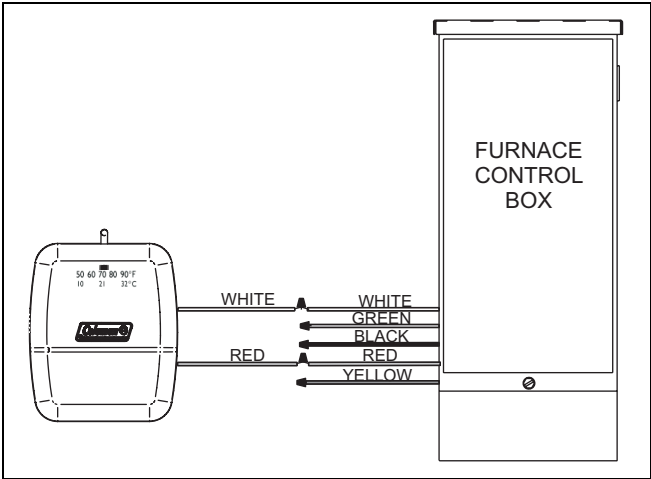
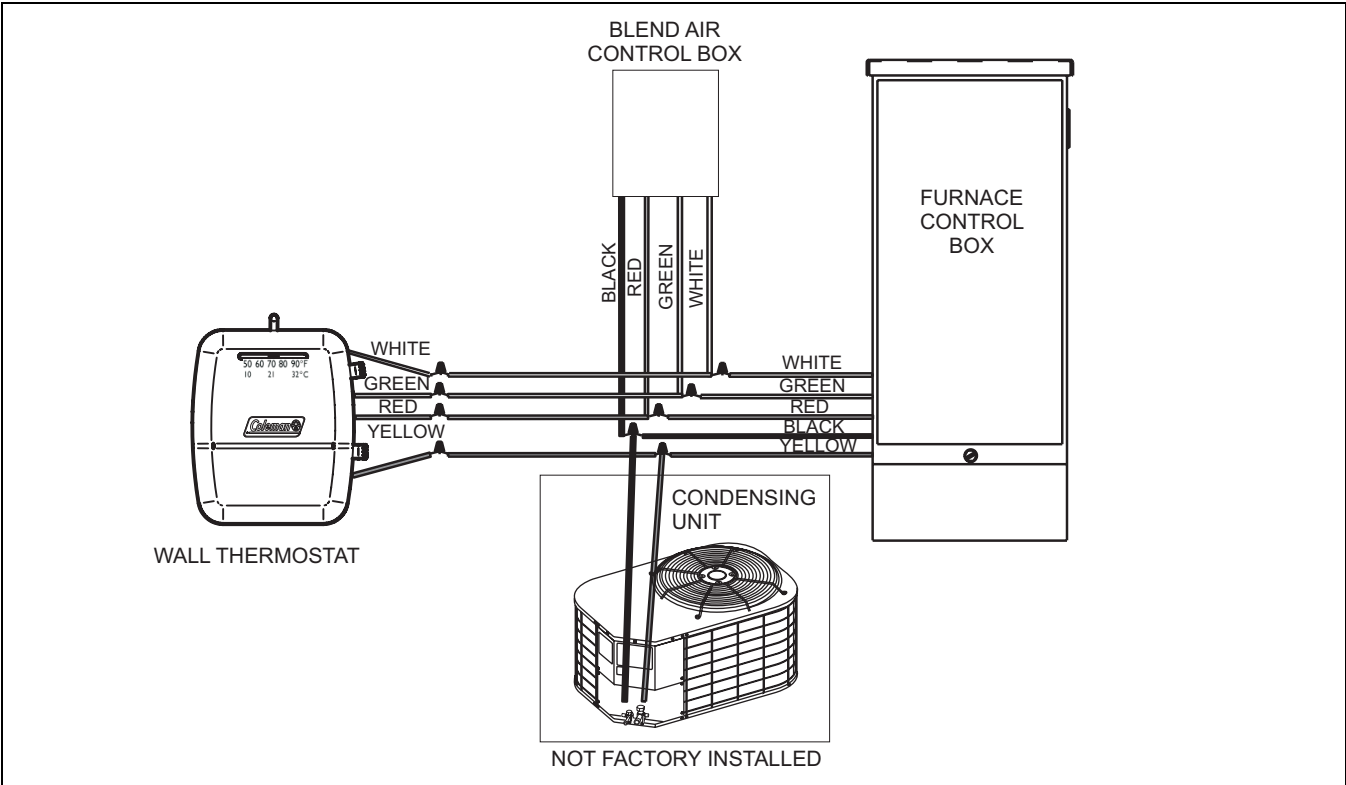

FIGURE 17 : Wiring for Heat Only Thermostat
FIGURE 18 : Wiring for Heat-Cool Thermostat
2. Connect the thermostat wires to the furnace low voltage pigtails. See Figure 17 (heating only) and Figure 18 (heating and cooling).